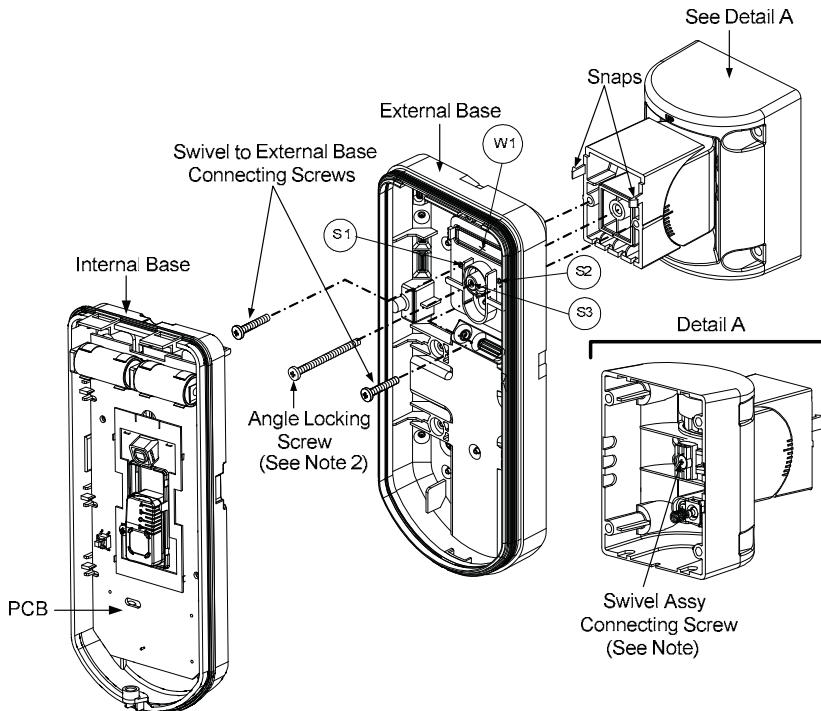

Figure 9
3. Connect the external base to the swivel using the dedicated snaps (Figure 9).
4. Secure external base to swivel with two screws fastened through knockouts S1 and S2 (Figure 9).
5. Insert the supplied angle locking screw from the external base through the angle locking screw knockout S3 on the external base to the standard swivel (Figure 9).
When marks on the two movable parts are aligned (Figure 9), the Standard Swivel is in 0° vertical/horizontal position. Each click from this position represents shifting of 5° in vertical/horizontal position.